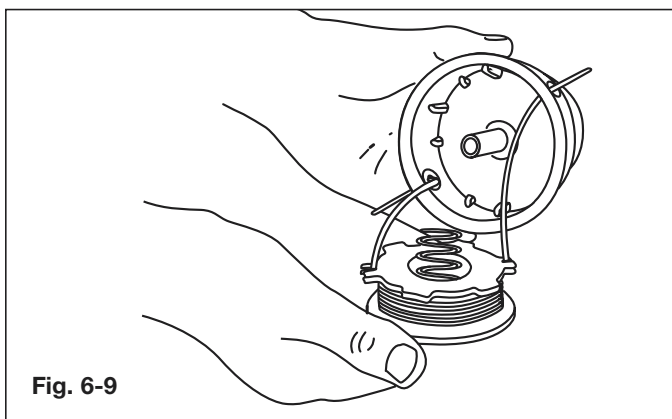

Fig. 6-9
13. Insert the ends of the line through the eyelets in the outer spool and place inner reel with spring inside the outer spool (Fig. 6-9). Push the inner reel and outer spool together. While holding the inner reel and outer spool, grasp the ends and pull firmly to release the line from the holding slots in the reel.
5. Insert the ends of the line through the eyelets in the outer spool (Fig. 6-9).